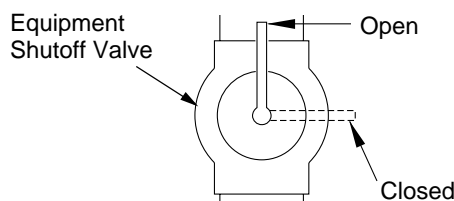

Figure 33 - Equipment Shutoff Valve
- Close equipment shutoff valve (see Figure 33).
1. Open equipment shutoff valve (see Figure 33, page 19).